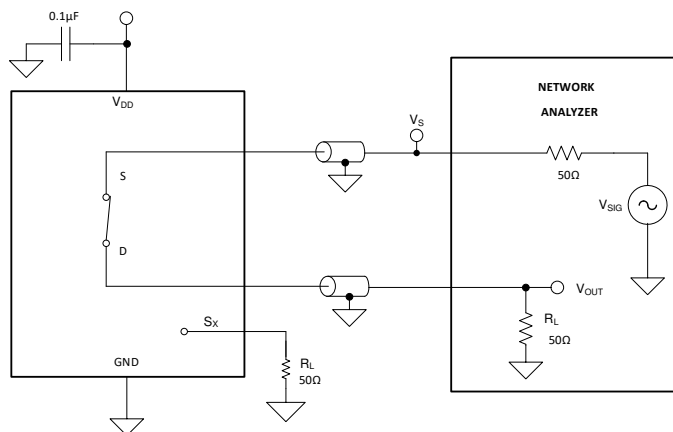

图 7-9. Bandwidth Measurement Setup
Bandwidth is defined as the range of frequencies that are attenuated by less than 3 dB when the input is applied to the source pin (Sx) of an on-channel, and the output is measured at the drain pin (D) of the device. 图 7-9 shows the setup used to measure bandwidth.